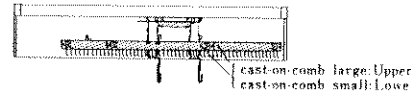

Fig. 26
8. Replace the cast-on comb large and small into the upper carrying case (See Fig. 26)